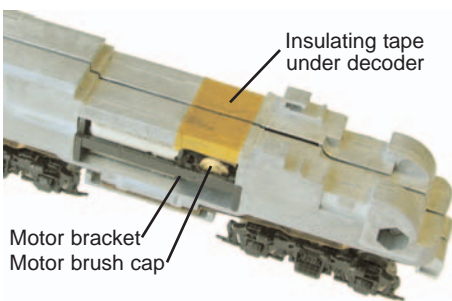

Figure 3: Place insulating tape on frame.
4. Place the small piece of kapton tape provided with the decoder on the loco frame, wrapping it around the sides as indicated in the **Figure 3.** The tape should cover the side of the frame to insulate the motor clips from the frame. Trim the tape so it does not interfere with motor brush caps.
5. Align the notches in the sides of the DN163M0 decoder board over the frame clips. (See **Figure 3.**) Be careful to insert the brass motor clips inside the plastic motor bracket